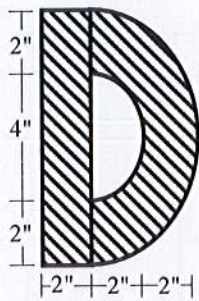

Fig.7
6. Calculate Yield Moment and Plastic Moment capacity of the section shown in Fig.7 if the section is made of elastic-fully plastic material